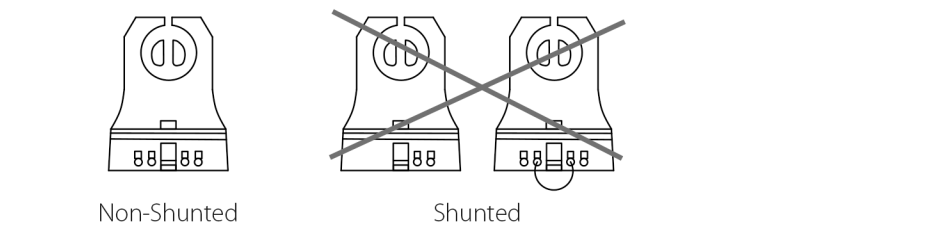

Fig. 6
2. If applicable, replace lamp holders at power end with non-shunted lamp holders (Fig. 6).